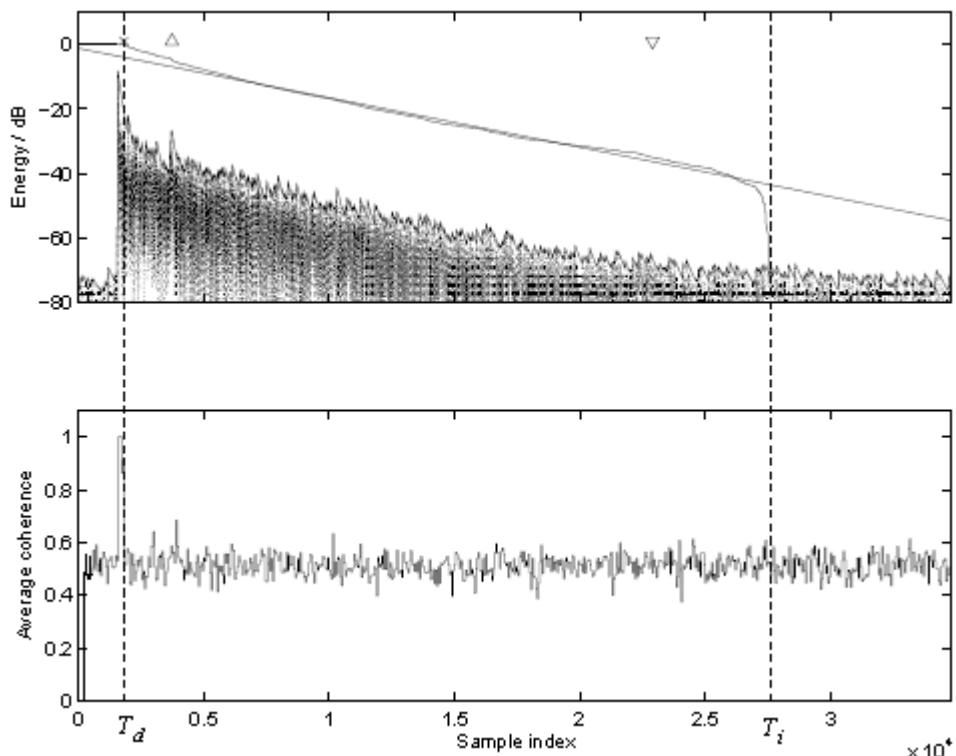

Fig. 6 An example of Schroeder integration with the limits T_d and T_i
- The time before the t_{trig} marker during which the Svantek instrument measures the actual sound pressure level and waits for the very high impulse sound pressure level that will meet the trigger condition. The trigger conditions are only met when the emitted pulse has a maximum sound pressure level higher than the L_t level (cf. Fig. 6). The L_t level in the Svantek instrument is adjusted by the **Level** item value (path: <Menu> / Measurement / RT60 Settings).